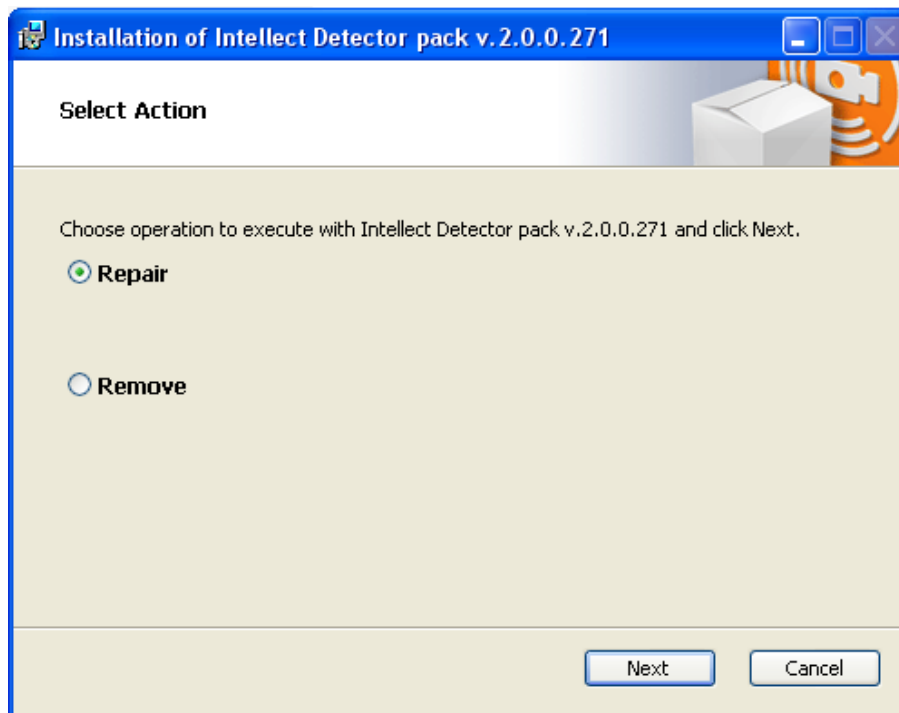

Fig. 5.2—9 Select action window
3. Select **Repair** (Fig. 5.2—9).